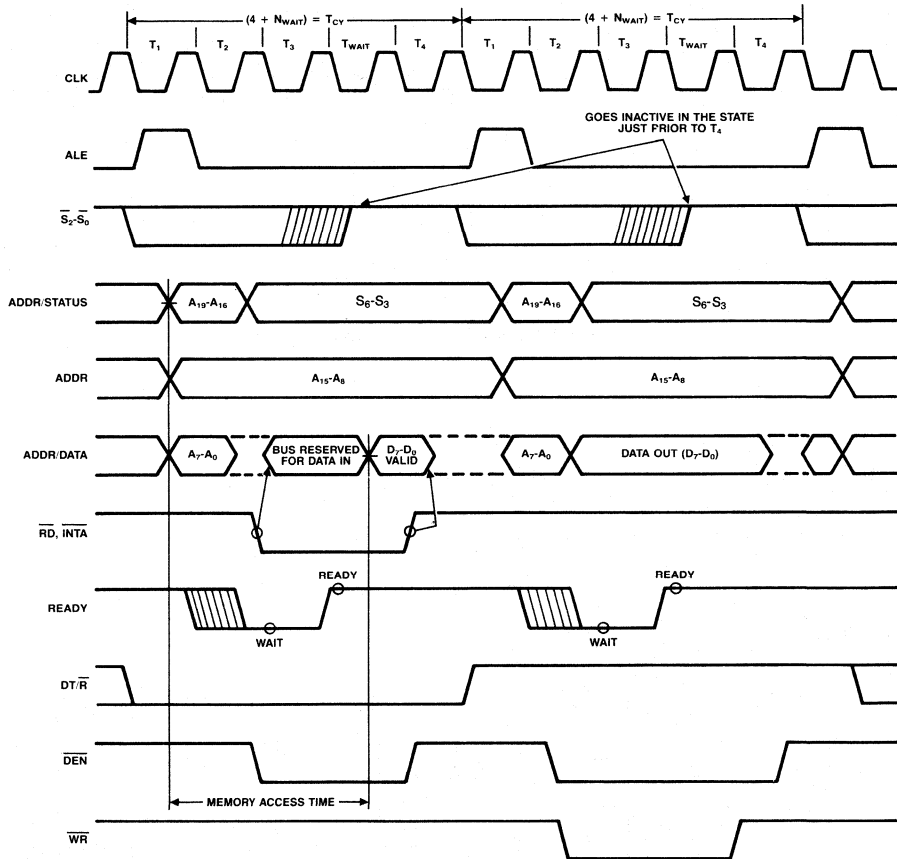

Figure 5. Basic System Timing
Each processor bus cycle consists of at least four CLK cycles. These are referred to as T1, T2, T3, and T4. (See FIGURE 5). The address is emitted from the processor during T1 and data transfer occurs on the bus during T3 and T4. T2 is used primarily for changing the direction of the bus during read operations. In the event that a "NOT READY" indication is given by the addressed device, "wait" states (T_{wait}) are inserted between T3 and T4. Each inserted "wait" state is of the same duration as a CLK cycle. Periods can occur between 80C88 driven bus cycles. These are referred to as "idle" states (T_i), or inactive CLK cycles. The processor uses these cycles for internal housekeeping.
The read cycle begins in T1 with the assertion of the address latch enable (ALE) signal (See FIGURE 5). The trailing (low going) edge of this signal is used to latch the address information, which is valid on the address/data bus (AD0-AD7) at this time, into the 82C82/82C83 latch. Address lines A8 through A15 do not need to be latched because they remain valid throughout the bus cycle. From T1 to T4 the IO/M signal indicates a memory or I/O operation. At T2 the address is removed from the address/data bus and the bus is held at the last valid logic state by internal bus-hold devices. The read control signal is also asserted at T2. The read (RD) signal causes the addressed device to enable its data bus drivers to